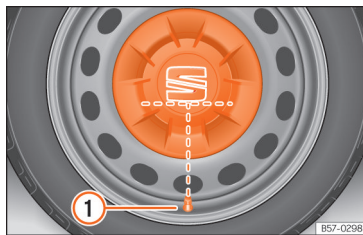

Fig. 220 Correct positioning of the central wheel trim for steel rims.
- Fit the central wheel trim onto the rim. The bottom of the "S" of the SEAT badge should align with the inflation valve >>> Fig. 220 ①.